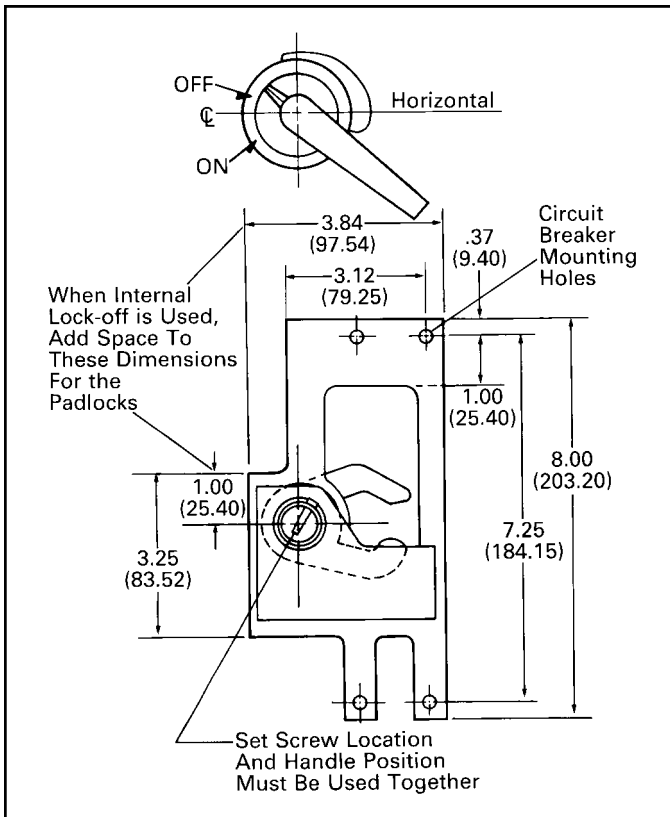
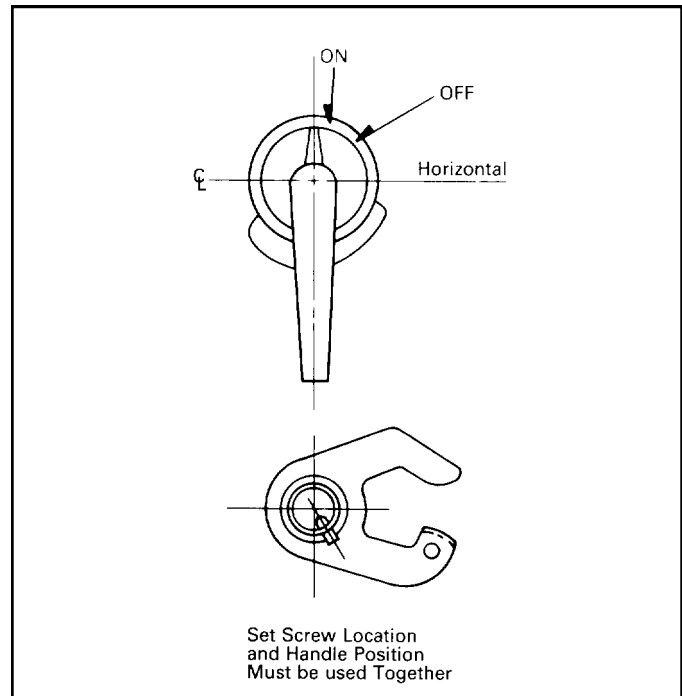
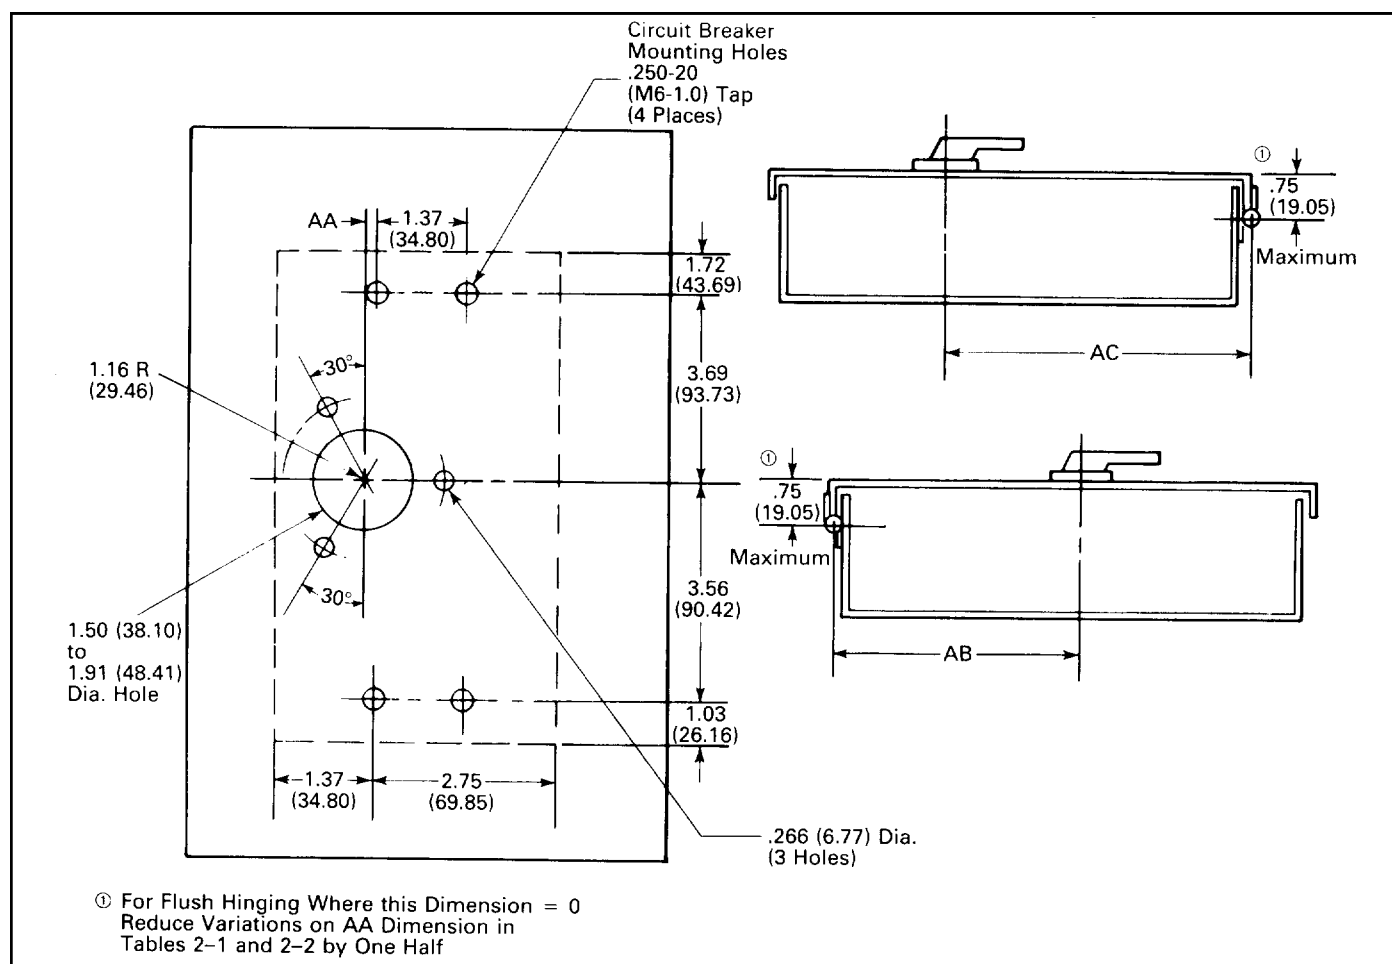
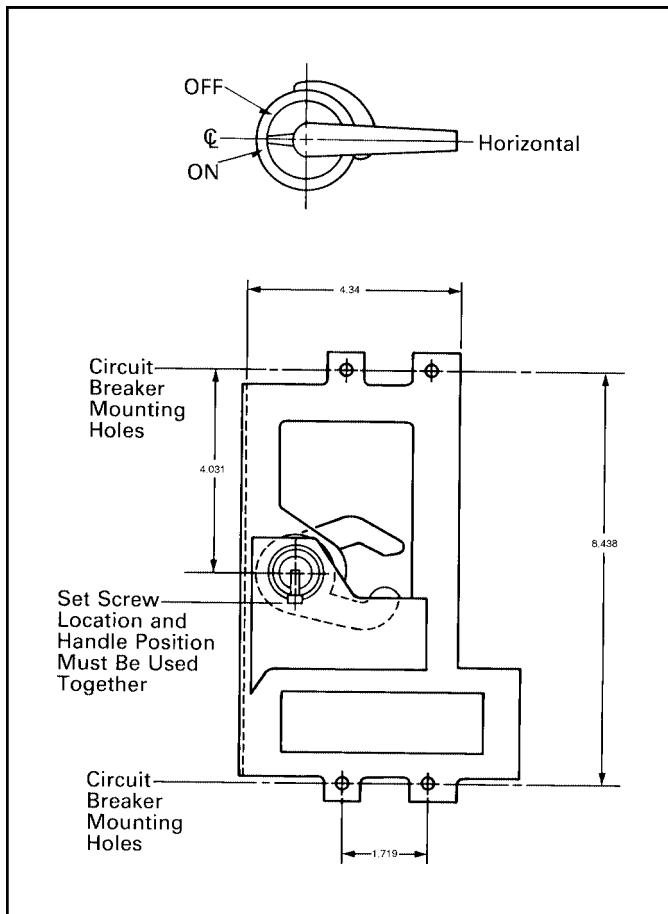

Fig. 2-2 Diagonal Handle Position, J-Frame Series C Circuit Breaker
Fig. 2-3 Vertical Handle Position, J-Frame Series C Circuit Breaker
Fig. 2-4 Enclosure Drilling Plan, J-Frame Series C Circuit Breaker
Fig. 2-5 Horizontal Handle Position, K-Frame Series C Circuit Breaker
**Note:** Determine position for circuit breaker in enclosure. (For J-frame Series C circuit breakers, refer to the drilling plans and dimensions provided in Figs. 2-2, 2-3, 2-4, and Tables 2-1 and 2-2. For K-frame Series C circuit breakers, refer to Figs. 2-5, 2-6, 2-7, and Tables 2-3 and 2-4.)
- 2-6. Drill shaft and handle attachment holes in enclosure cover. (Refer to Fig. 2-4 or 2-7.)
① Refer to Fig. 2-4 to apply the dimensions in this table.
② Dimensions are shown in inches, with millimeters in parenthesis.
③ Where cabinet hinging produces a difficult handle/shaft engagement angle, dimension variations are given to permit easier engagement when closing the cabinet door. Avoid maximum variations where possible.
**Table 2-2. Enclosure/Handle Assembly Location Dimensions J-Frame Series C Circuit Breakers For Use With Vertical Handle Position Only (Fig. 2-3)①②③**
**Table 2-3. Enclosure/Handle Assembly Location Dimensions For K-Frame Series C Circuit Breakers For Use With Horizontal Handle Position Only (Fig. 2-5)①②③**
2-7. Screw shaft into handle operating assembly. Set AD as shown in Fig. 2-9 and lock shaft with special set screw provided and a commercially available thread locking adhesive. (Refer to Figs. 2-2, 2-3, 2-5, or 2-6 to determine correct shaft position.)
2-8. Secure handle assembly to cover using three screws (Fig 2-8) provided in kit. (Refer to Figs. 2-2, 2-3, 2-5, or 2-6 for correct position of handle.) For reference, overall handle dimensions for both frame sizes are shown in Fig. 2-11.